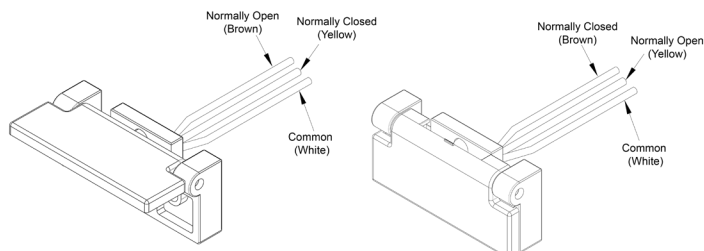

Figure 8.1 Form C Latch bolt connection (optional)
- Figure 8.1 shows optional Form C connection.